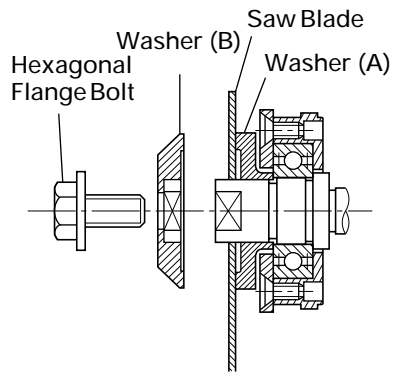

Fig. 18
- (1) Thoroughly remove any sawdust which has accumulated on the spindle, bolt and washers.
- (2) For mounting saw blade, the concave sides of both washers (A) and (B) must be fitted to the saw blade sides. Mount the saw blade on the spindle, and finally affix washer (B) (See Fig. 18)
- (3) To assure proper rotation direction of the saw blade, the arrow direction on the saw blade must coincide with the arrow direction on the blade cover.